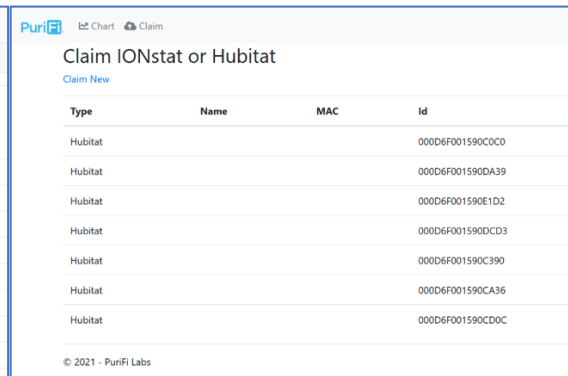

Fig. 2. You can add multiple hubs to each account.
- Claim: The Claim tab offers an area to add additional systems to your PuriFi account (Fig. 2).